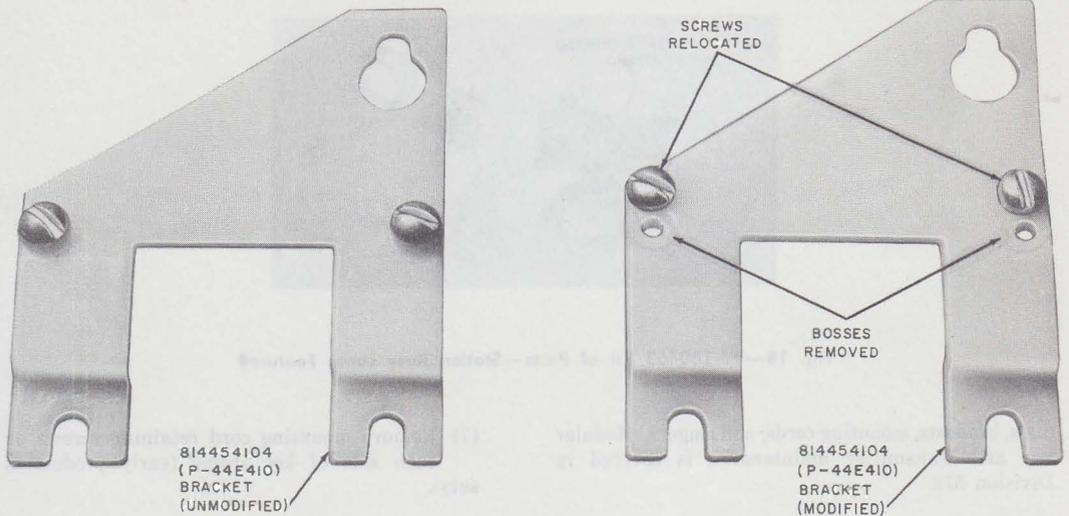

Fig. 16—Buzzer Mounting Bracket Assemblies
**Note:** Telephone sets manufactured between June 1964 and April 1966 and equipped with a one-piece bezel must have the 814454096 (P-44E409) bracket assembly [includes modified 814454107 (P-44E410) bracket, Fig. 16] installed before the KS-8109L2 buzzer can be mounted.